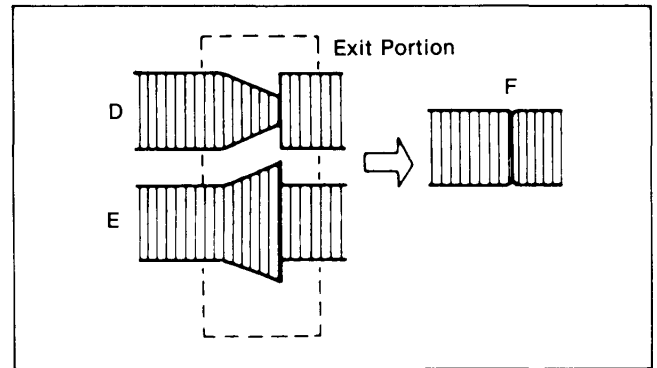

Figure M21
6. If the RF envelope appears like example D or E in Figure M21, then adjustment of the tape guide post (P3 : Exit) is necessary.
7. Adjust the tape guide post (P3) in the same manner as the P2 post so that the exit portion becomes flat as shown in Figure M21-F.